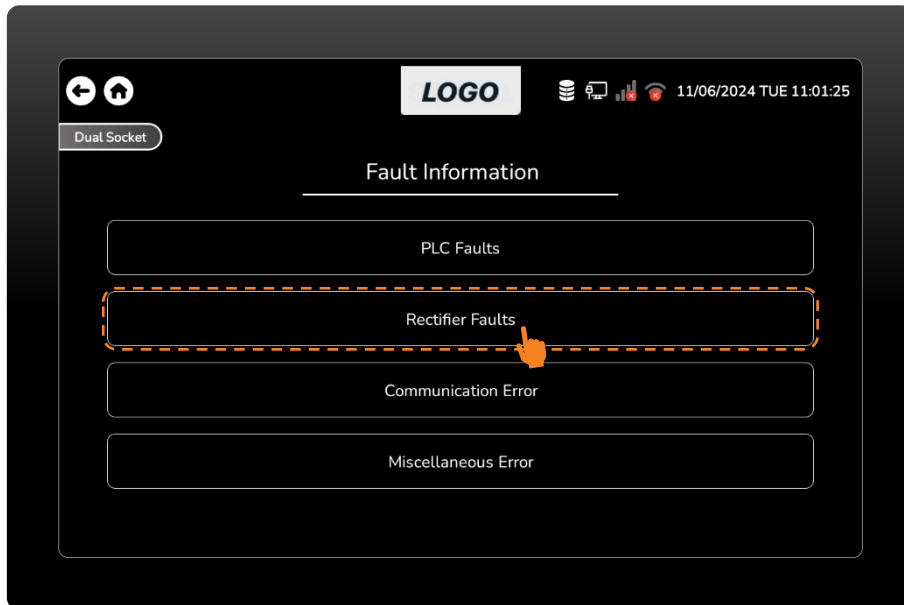

Figure 103 Press the Rectifier Faults Button.
- To get information about rectifier faults, press the Rectifier faults button. (Figure 103)